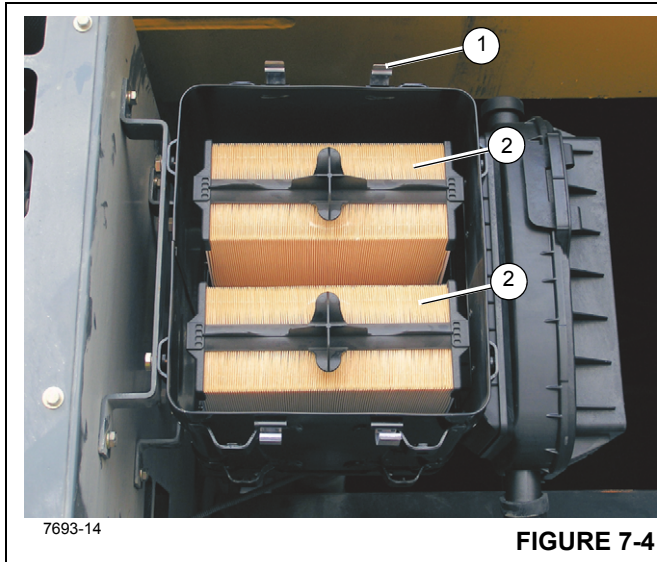

FIGURE 7-4
1. Lift the clips (1) (Figure 7-4) securing the cover to the air cleaner body and remove the cover.